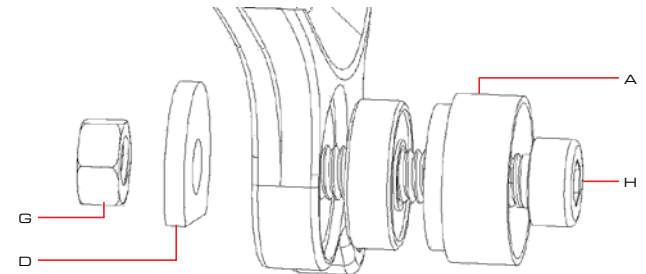

Fig.6
2. Once you've cleaned the bearing bores, apply a small amount of grease to the inside surface of the bearing bore and the outside of the bearing. Assemble the bearing installation tool (as shown in Fig.6). Using the Allen wrench and open wrench to press (or draw) the bearing into place. Make sure the bearing is seated completely and cleanly into the link. Repeat this process for the Seat Stay Yoke bearings (Use tool "B" in place of tool "A" for the smaller Seat Stay Yoke bearings) as needed.